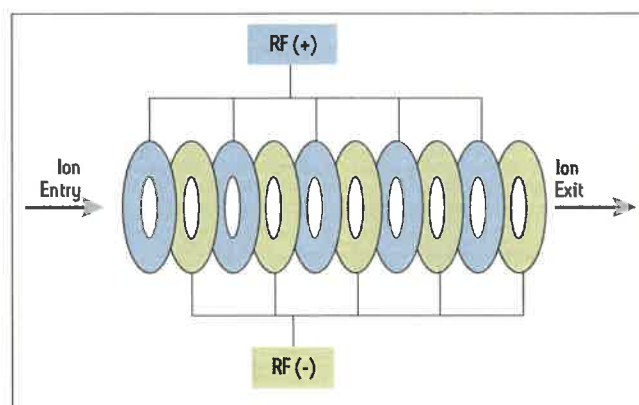

Figure 1. Stacked ring ion guide.
The T-Wave device consists of a stacked ring ion guide in which a sequence of ring-shaped electrodes is arranged, as shown in Figure 1. Adjacent rings have opposite phases of Radio Frequency (RF) voltage applied to them, which radially confine the ions within the device while allowing them to pass unhindered along the axis.